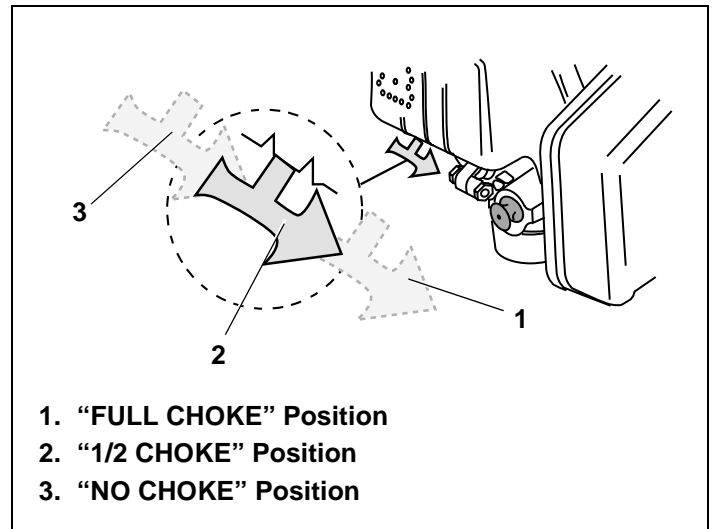

Figure 15. Engine Choke Positions
- Move choke control to "FULL CHOKE" position. See Figure 15.
If restarting a warm engine after a short shutdown, move choke control to "NO CHOKE" position. See Figure 15.
- Momentarily move choke lever to "1/2 CHOKE" position until engine runs smoothly. See Figure 15.